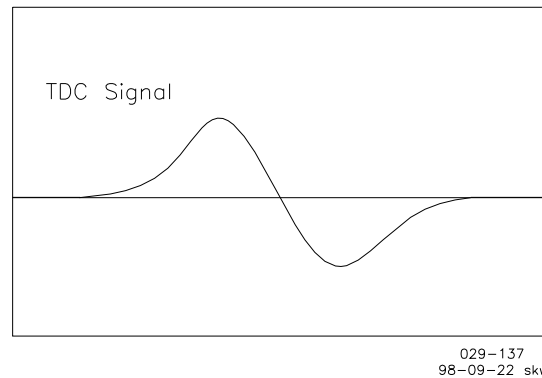

Figure 4-1. Phase and TDC Signal
- The wiring of the MPU needs to ensure that the polarity is correct. The positive pin of the MPU must be connected to the positive pin of the In-Pulse input. The phase and TDC signal should look like Figure 4-1.